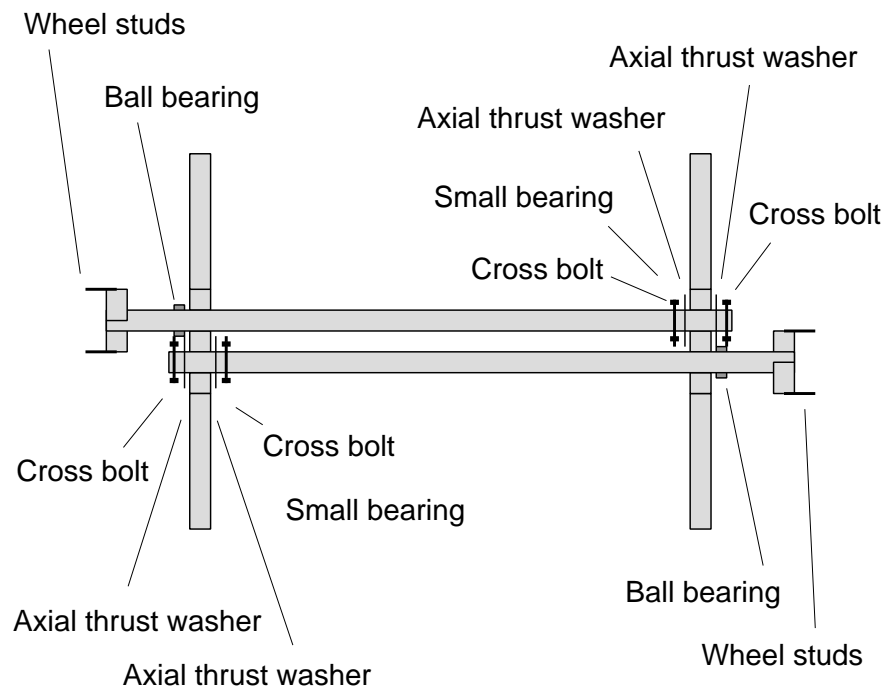

Figure 13: axle and bearing arrangement.
- 10) Assemble the axles and thrust washers as shown in Figure 13 but without the crossbolts. Put the wheels onto the axles, lightly tighten the nuts and position the axles so that there are 50 mm gaps between the tyres and the axle beams.